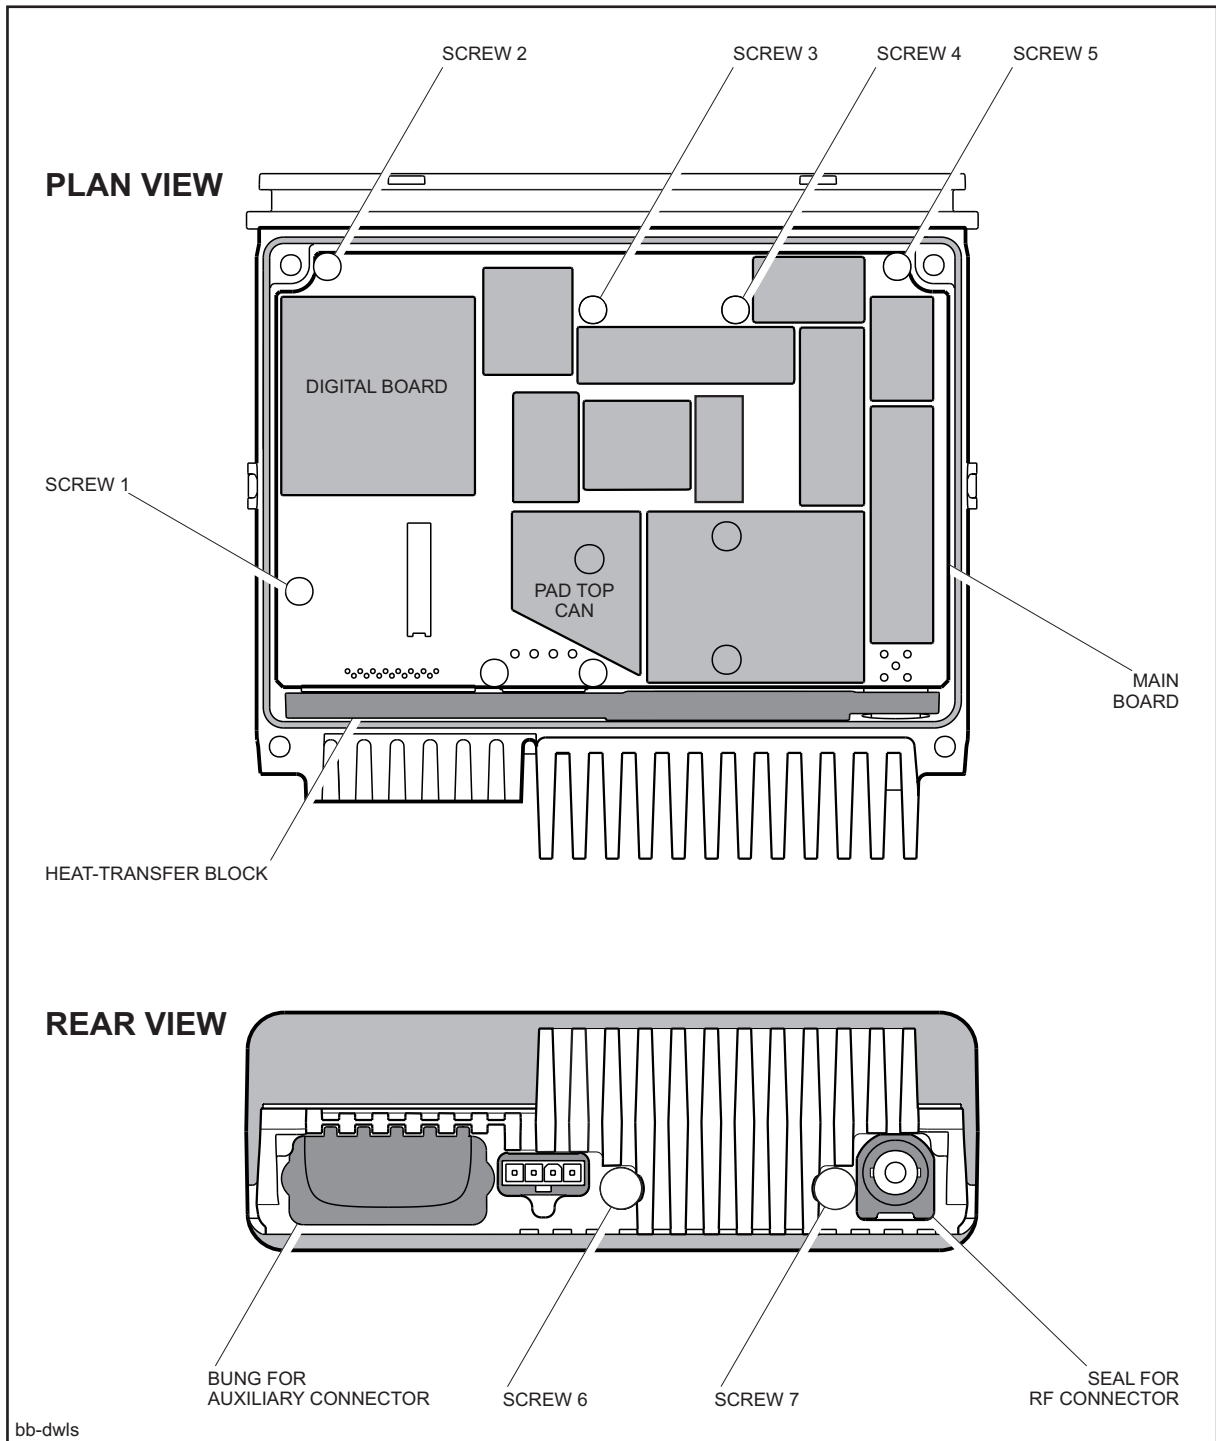

Figure 3.8 Illustration of the chassis showing the screws that secure the main-board assembly
2. Remove the rubber seal around the RF connector — preferably by hand. If necessary, however, lever up the seal by inserting the blade of a small (about 3 mm) flat-bladed screwdriver in the gap beneath the seal. See Figure 3.8. Do not damage the seal with the screwdriver.
3. Note the five interior screws securing the main-board assembly; these are labelled screw 1 to screw 5 in Figure 3.8. Use a Torx T10 screwdriver to remove the screws. The order of removal is immaterial, but good practice would be to follow the order from screw 1 to screw 5.
4. Note the two exterior screws securing the main-board assembly; these are labelled screw 6 and screw 7 in Figure 3.8. Use a Torx T20 screwdriver to remove the screws.
2. Screw in the two external screws by hand as far as possible. The screws are labelled screw 6 and screw 7 in Figure 3.8. Ensure that the screws start easily and are not cross-threaded.
3. Identify the diagonal edge of the PAD TOP can. The can is shown in Figure 3.8.
6. Screw in the five internal screws by hand. The screws are labelled screw 1 to screw 5 in Figure 3.8. Ensure that the screws start easily and are not cross-threaded. Then use a Torx T10 torque-driver to tighten the screws to 1.9 N·m (17 lbf·in).